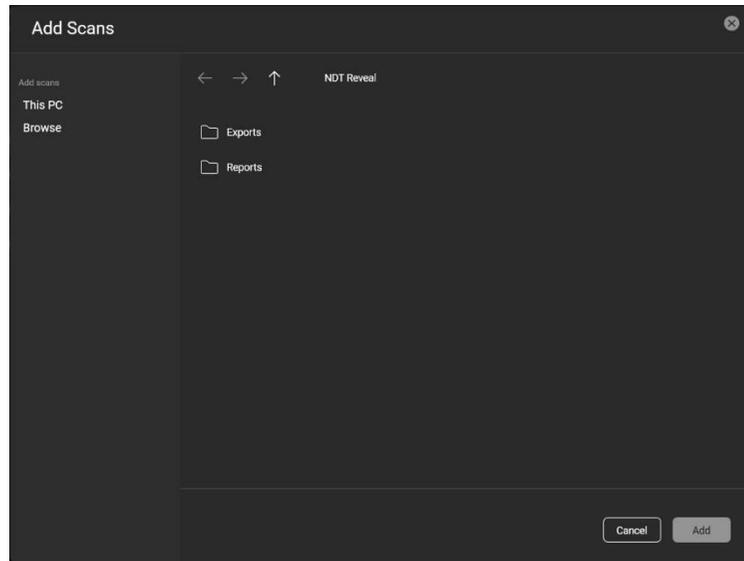

Fig. 22 Browsing through folders to Add Scans
- Browse through the folders location to select the Scan or Grid you want to add, and press “Add” (Fig. 22).